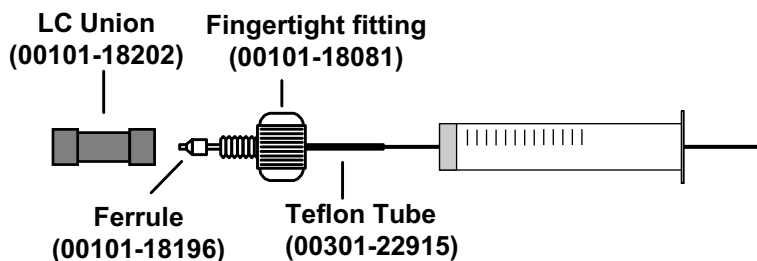

Figure 7-2. Syringe and syringe adapter assembly
- c. Remove the tip of the syringe needle from the end of the Teflon tube on the syringe adapter assembly. See Figure 7-2.
5. While holding the plunger of the syringe in place, carefully reinsert the tip of the syringe needle into the end of the Teflon tube on the syringe adapter assembly. See Figure 7-2.